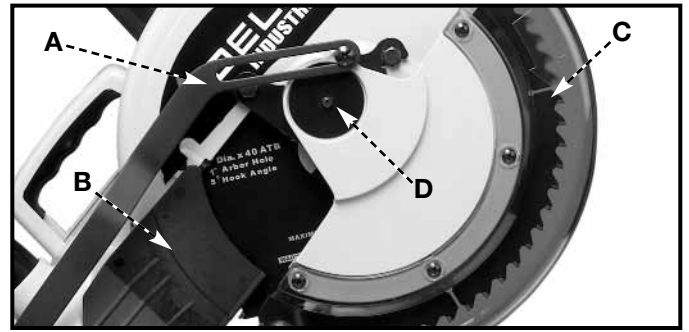

Fig. 36
The 36-412 incorporates an moveable lower blade guard (C) Fig. 36, and it also has a secondary blade guard (B) to cover the rear section of the blade. After an extended period of use, the moveable lower blade guard (C) Fig. 36 may not operate smoothly when the cuttinghead is lowered. This can be corrected by adjusting nut (D) until the lower blade guard (C) moves freely.